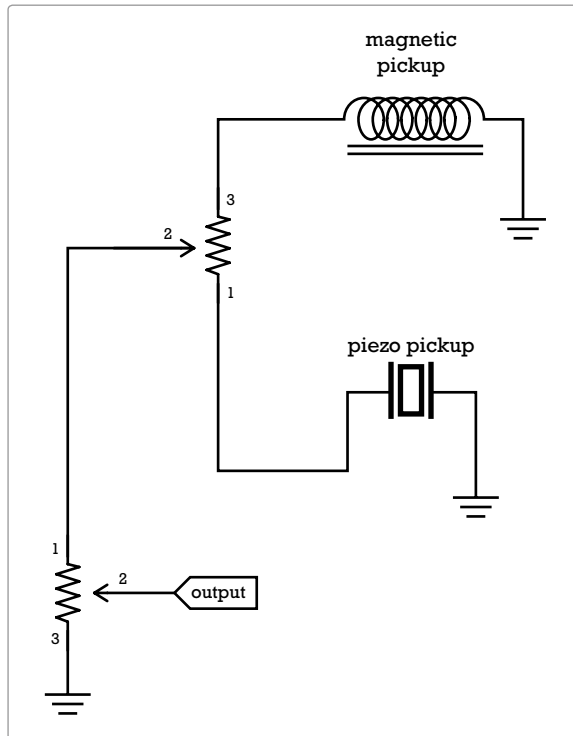
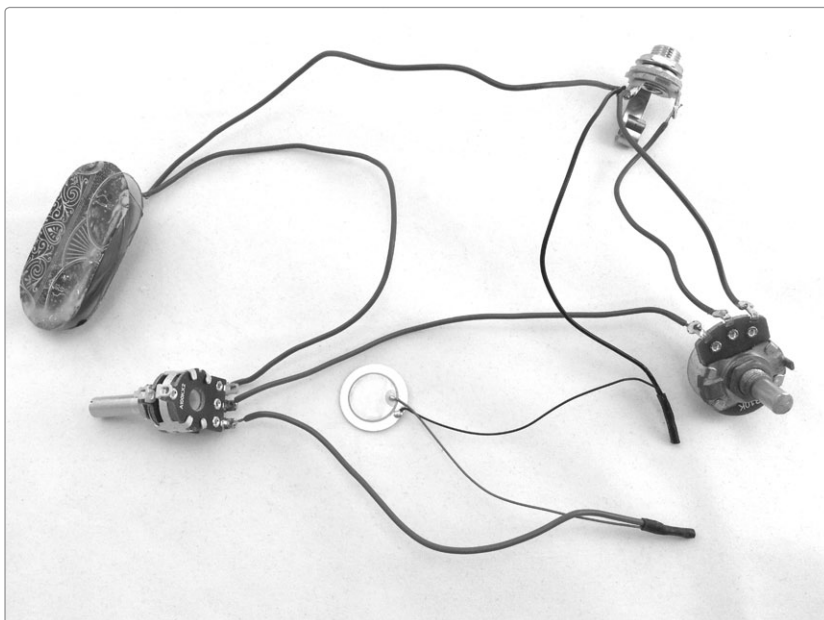

FIGURE 11-12: *The circuit diagram for the Twang & Roar Kalimba's pan-pot mixer*
FIGURE 11-16: *The wired electronics. I've extended the piezo's ground lead and added shrink tube to both the piezo leads' solder joints.*
We'll be building and testing the dual-pickup mixer shown in Figure 11-12, with the caveat that you'll at least partially unbuild this after testing in order to install the magnetic pickup.² Get out both pots, your jack, your piezo element, the supplies you need to build the magnetic pickup, your insulated 24-gauge hook-up wire, and your soldering kit.
Now solder the jack, which has two lugs. One lug connects to the hooked metal tongue that will make contact with the *tip* of the 1/4-inch guitar cable; this lug carries the signal from the instrument. The other lug connects to the cable's *sleeve*, thus completing the ground connection.³ Solder the lead connected to the middle lug on the volume pot to the tip lug of the jack. Then, take all three ground connections—the black lead on the piezo, the free lead on the magnetic pickup, and the remaining lead on the volume pot—and solder them to the ground lug on the 1/4-inch jack. Confused? Check Figure 11-16.
Step 21 Set the volume pot back to full counterclockwise, shut down your amp, unplug everything, and move on to final construction. Problems? Check your work against Figure 11-16 and the schematic in Figure 11-12. If you see no obvious mismatch between your build so far and those images, flip to “General Troubleshooting” on page 355.